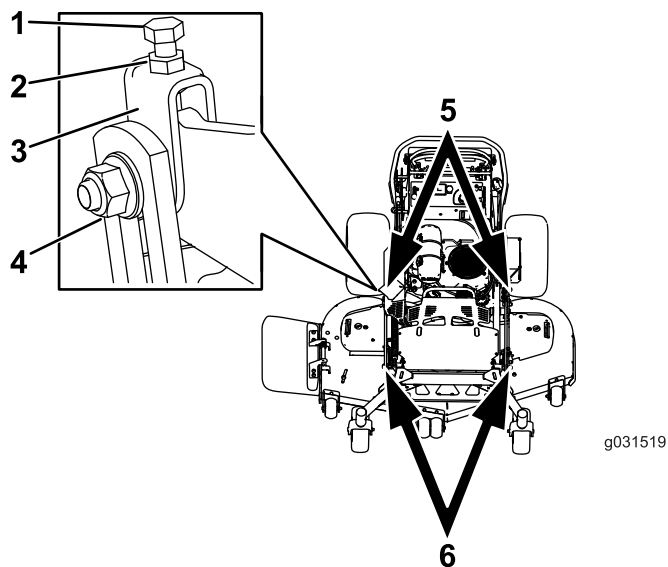

Figure 82
- Loosen the jam nut and side bolt in the yokes that you want to adjust (Figure 82).
2. Rotate the top bolt of the yokes to adjust the height of the mower deck (Figure 82).
5. If the measurement is not correct, locate the front 2 yokes on the machine (Figure 82).